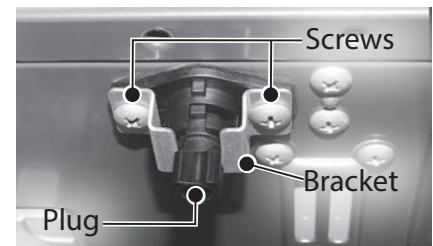

Figure 203 - HEX drain assembly
**9** Reinstall the cartridge to the water heater. Locate the screws previously removed in **Step 5**. Insert and snug all three (3) screws by hand.
**11** Locate the heat exchanger (HEX) drain line underneath the water heater. See Figure 203. Remove the two screws securing the metal bracket and place them aside in a safe place for reinstallation.
- 16** Locate the HEX drain connected to the drain tube in the water heater (bottom left side). Remove spring clip securing HEX drain to drain tube and place it aside in a safe place for reinstallation. See Figure 203.